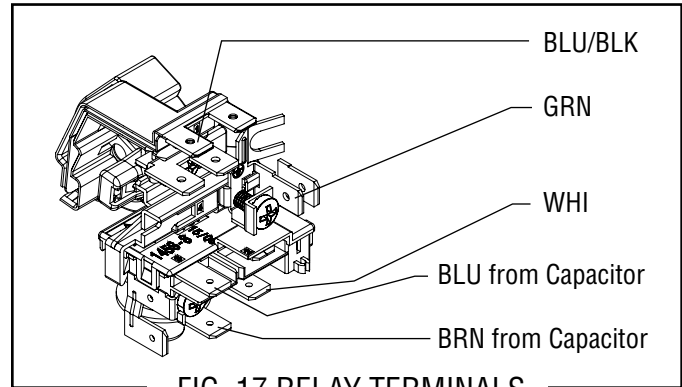

FIG. 17 RELAY TERMINALS
1. Remove terminal cover (4).
4. Remove overload protector (3) and start relay as an assembly.
5. Remove overload protector (3) and discard overload protector.
6. Install new overload protector (3) on to the relay (1).
7. Install relay (1) and overload protector (2) on the compressor terminal bracket.
8. Refer to Fig. 17 and reconnect the thermal overload protector wires.
9. Reinstall terminal cover (4).